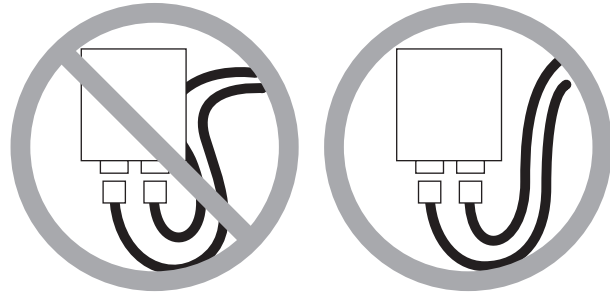

Figure 3
4. Position the units in place. Make sure wiring harness is free and not pinched under unit. See FIGURE 3